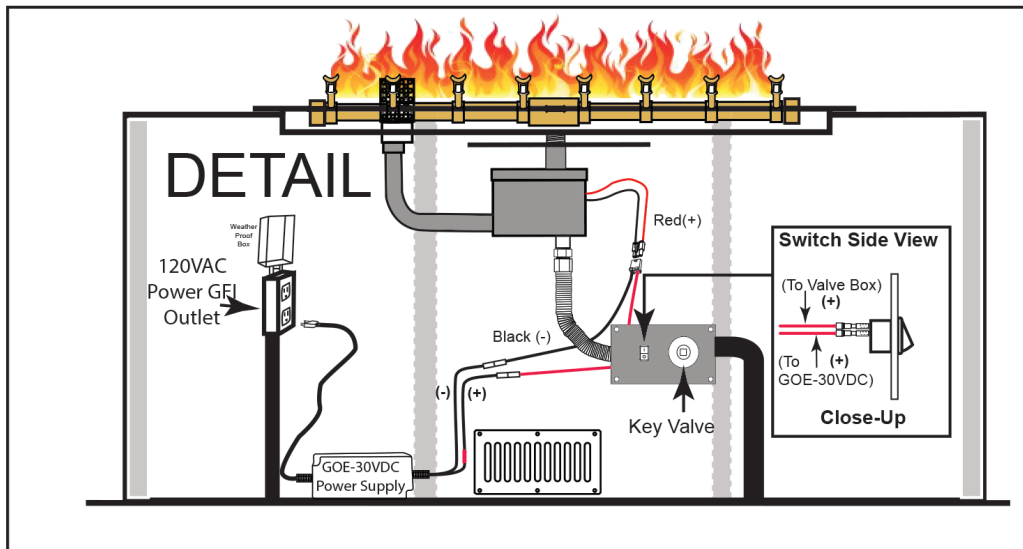

Fig. 4C Example of a single fire feature install with power supply and switch contained within the enclosure, when applicable.
4. The primary gas shut-off (not supplied) will require a 1/2" male flared fitting to enable connection of the stainless steel flex gas line (not supplied) with the fire feature (see Fig. 4C page 9).
5. Do not place an LP tank inside any fire pit enclosure. Locate all Liquid Propane (LP) tanks outside the enclosure.
7. **DO NOT** place an LP tank inside any fire pit enclosure. Locate all Propane (LP) tanks outside the enclosure.
The GOE-30VDC power supply is to be installed inside the enclosure due to the wire length limitations. The power cord is 3-feet long the 30VDC leads to the valve are 3-feet long. See Fig. 4C.
The control panel mounting plate is pre-assembled at the factory with the key valve and ignition switch. On the back of this manual is a template for use to cut an opening for the mounting plate. Once you have determined the location of control panel mounting plate install the gas connections and Piezo wires as shown in Fig. 4C, page 9 and secure all connections.